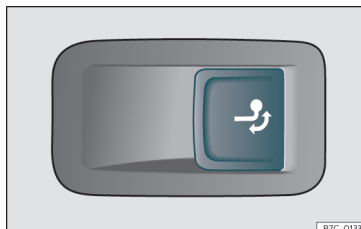

Fig. 195 On the right side of the luggage compartment: button for unlocking the tow hook.
- Pull the>>> **Fig. 195** button briefly. The tow hook unlocks electrically and automatically turns outwards. The button's control lamp flashes.
- Pull the >>> **Fig. 195** button briefly. The tow hook unlocks electrically.
- If the warning light on the button >>> **Fig. 195** → *flashes*, this means that the tow hook has not been attached properly or is damaged. >>> ⚠
- If the warning lamp >>> **Fig. 195** → *remains on* with the rear lid open, the tow hook is correctly in place both when extracted and when covered.
- Never press the >>> **Fig. 195** button when there is a trailer hooked to the vehicle or when a carrier system or other accessories are mounted on the tow hook.